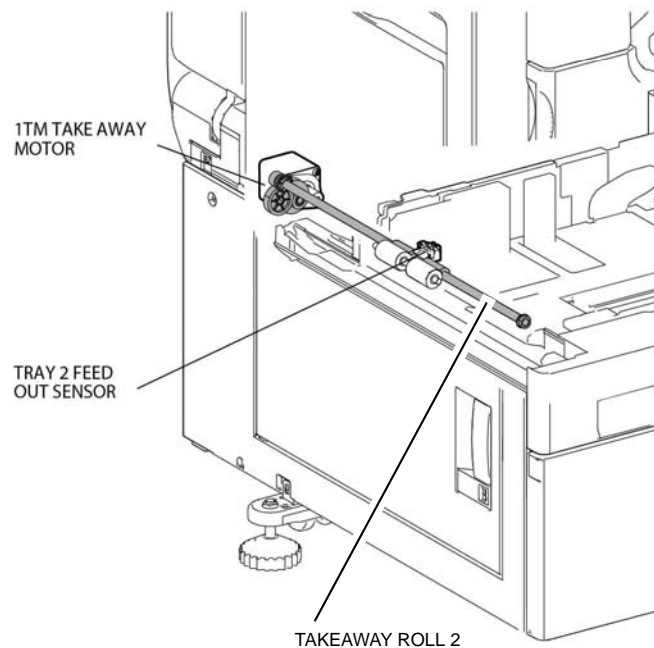

Figure 5 1TM take away
- Tray 2 1TM, Figure 5.
When feeding from tray 3 or tray 4 of a 3TM, the takeaway motors of all the above paper trays are energized and drive their associated takeaway rolls, Figure 5. At the same time the tray 3 or 4 feeder is activated and paper is fed from the feeder onto the associated takeaway roll (3 or 4). Trays 3 and tray 4 have no feed out sensors. The takeaway motors for trays 1, 2, 3 and 4 will stop when the registration sensor detects the lead edge of the final sheet in a print job.